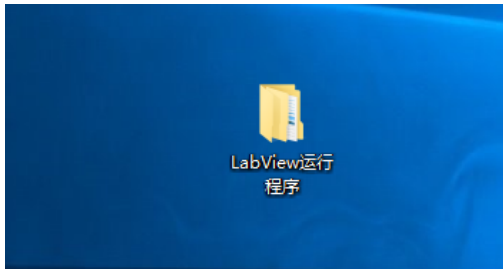

Figure 5.1 Installation folder
3.2.1 Extract the compressed file as shown in Figure 5.1.